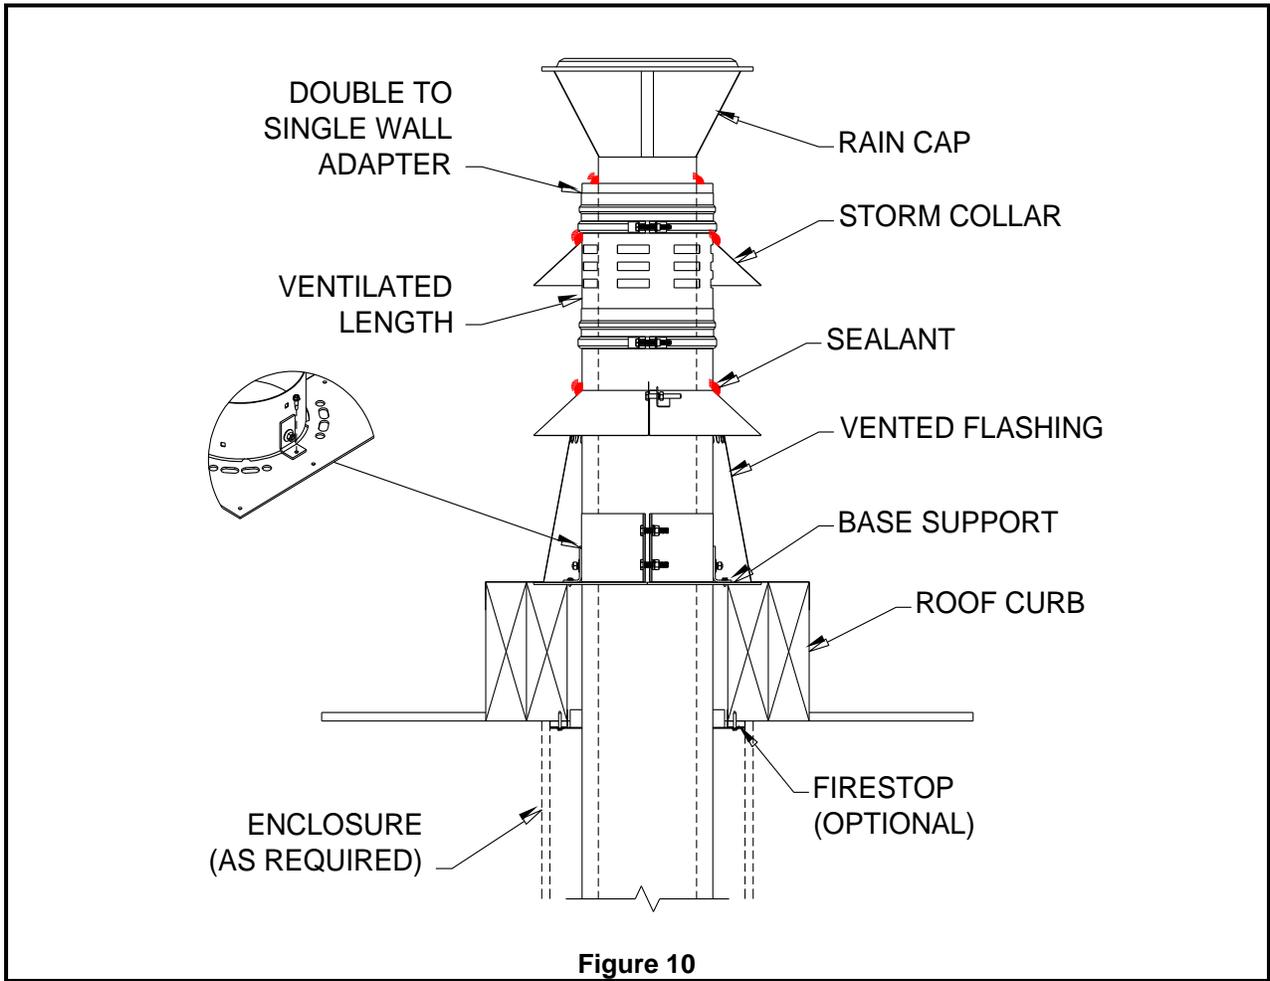

Figure 10
2. Cut and frame square openings in the floor, ceiling and roof where the vent will pass. **The openings must be 4" larger than the vent inner diameter.** If you are planning to install a Roof Radiation Shield, the roof opening must be 6" larger than the vent inner diameter (see **Figure 10**).
9. Install the appropriate roof flashing for your roof pitch. A vented flashing is required for a combustible roof. Seal the flashing to the roof with roofing tar or silicone sealant. Place a storm collar over the vent and the flashing and over the Ventilated Length to cover the ventilation openings. Tighten them in place. Caulk the joint between the vent and storm collars with silicone sealant (see **Figure 10**).